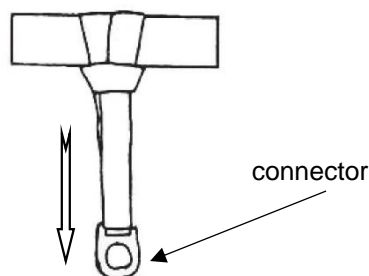

Fig.3
- ◆ Size the Temporary Anchorage Sling length to the structural member you will attach it to. When properly attached to the anchorage, the Sling must protrude completely through the loop so that the connector hangs freely (Fig.3).
- ◆ Adjust the webbing so that the sling is positioned under the center of the structural member. Pull down on the connector to remove slack and secure the hitch (Fig. 3).